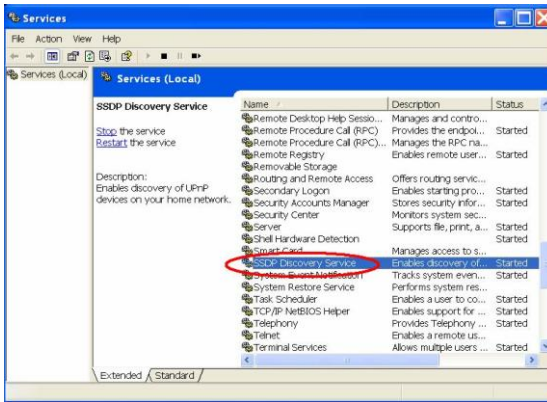

Figure A-17
**Step 4:** When the **Services** dialog box shows up, double click the **SSDP Discovery Service** icon. See Figure A-17.